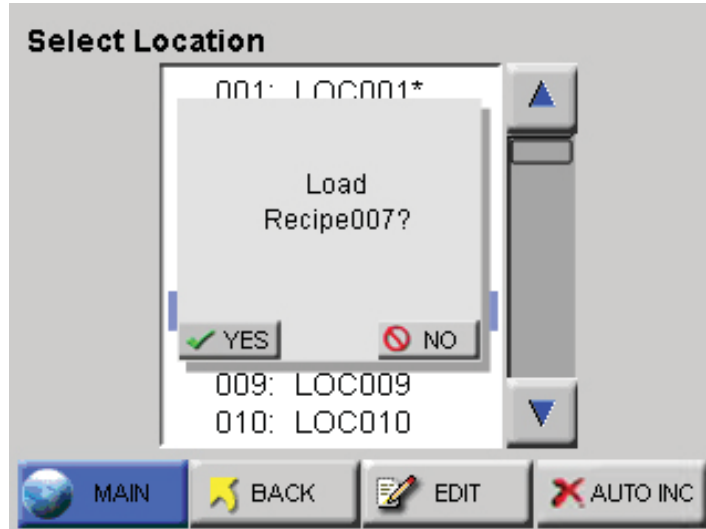

Figure 6-77 Location - Load Recipe
- When selecting a location with a recipe, the user is provided with the option of loading the recipe as shown in Figure 6-77. If the user chooses not to load the recipe, the location can still be used with the current settings.